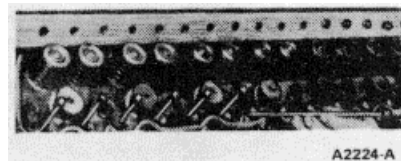

FIG 35. Valve Push Rod Removal
9. Remove the valve rocker arm shaft assembly. Remove the valve push rods in sequence (Figure 35).